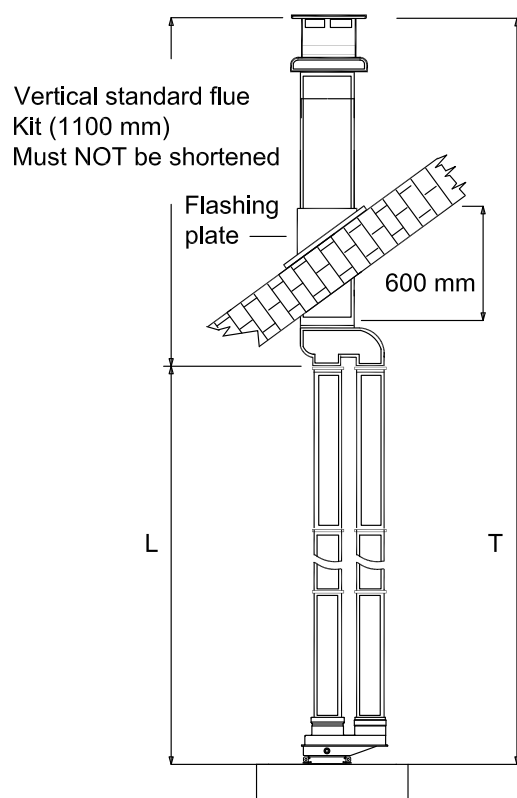

Fig. 24
This part of the installation manual covers the installation and fixing instructions of the twin flue eccentric flue duct systems only. When ordering twin flue it must be stated for HE 80/98 S range. Typical installation procedures are illustrated by the drawing (fig.24). Remove the front panel of the case (sect.8.1). Unscrew the screws (item 66 fig. 17) on the flue adaptor.
5.16 Exhaust/suction system with concentric pipes for flat or sloping roofs. Extensions with two separate pipes (fig. 24).